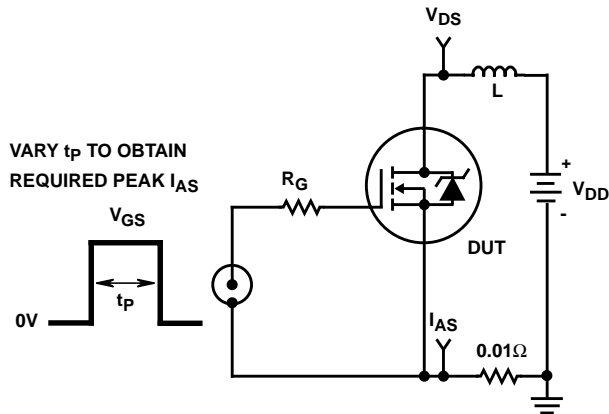

FIGURE 15. UNCLAMPED ENERGY TEST CIRCUIT
4.  $V_{DD} = 50\text{V}$ , starting  $T_J = 25^\circ\text{C}$ ,  $L = 4.0\mu\text{H}$ ,  $R_G = 25\Omega$ , peak  $I_{AS} = 15\text{A}$ . See Figures 15, 16.